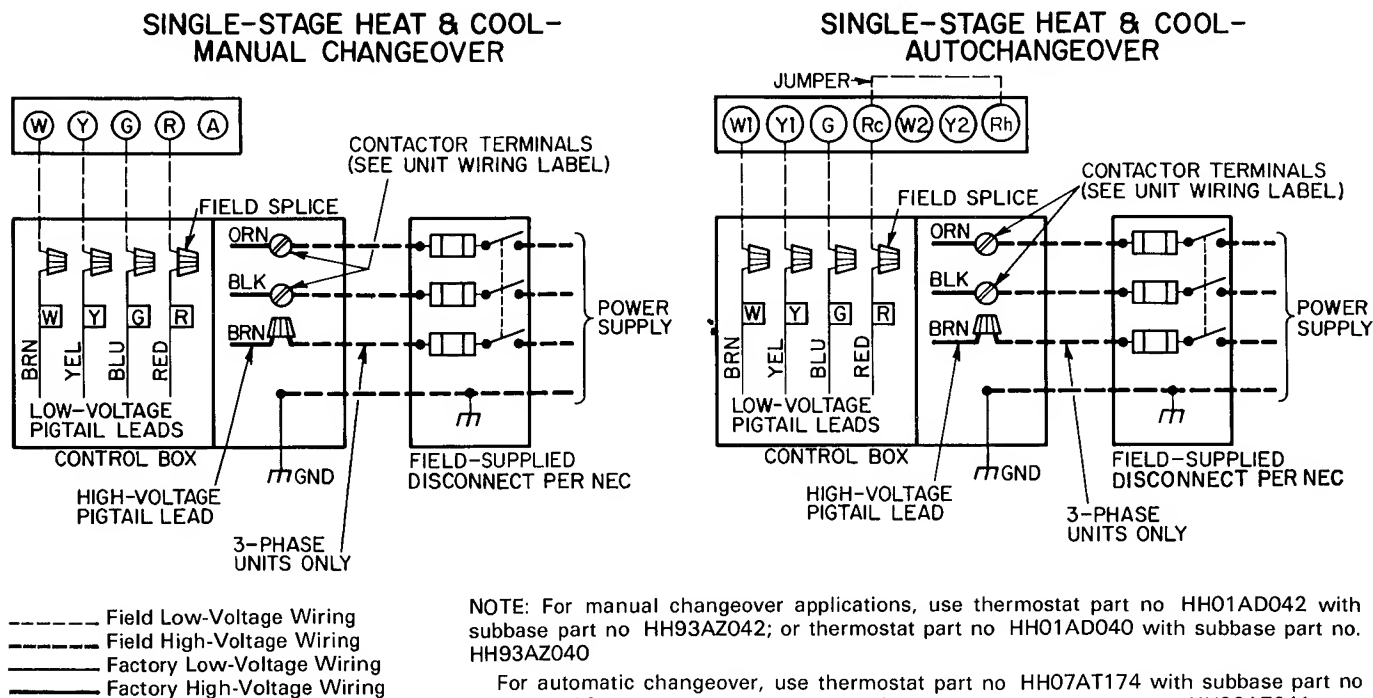

Fig. 8 — High- and Low-Voltage Connections
**NOTE:** On 3-phase units, connect third high-voltage lead to brown high-voltage pigtail lead. See unit wiring label and Fig. 8.
A grommited, low-voltage inlet hole is located in the panel adjacent to control access panel. See Fig. 4. Run low-voltage leads from thermostat, through inlet hole and to low-voltage flagged pigtail leads that run through a hole in bottom of unit control box. See Fig. 6. Connect thermostat leads to pigtail leads as shown in Fig. 8.